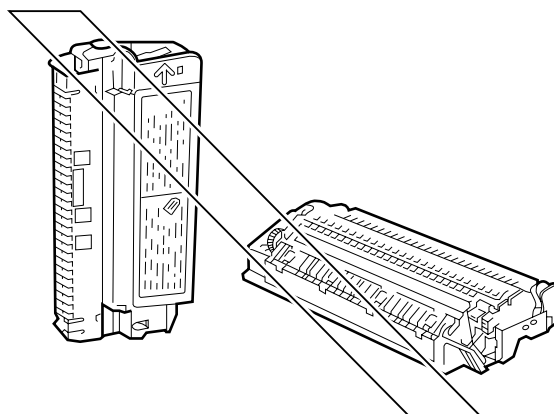

Figure 10-402
- b. Do not place the cartridge on its end or turn it over as shown in Figure 10-402.